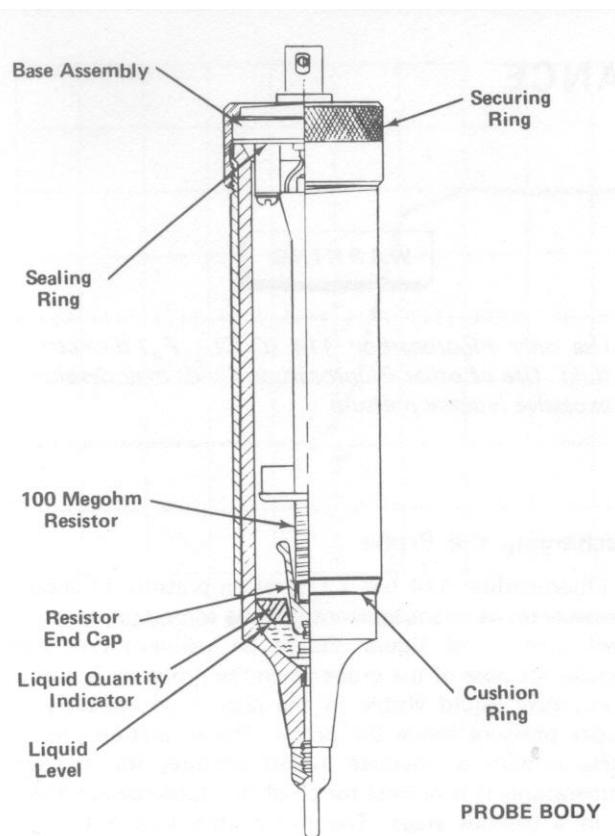

Figure 1. Probe body assembly.
1. Disassemble the probe body and inspect the components for evidence of damage. A cutaway drawing is shown in Figure 1. In particular, inspect and measure R100, the 100-MΩ high-voltage resistor. Replace any defective components.